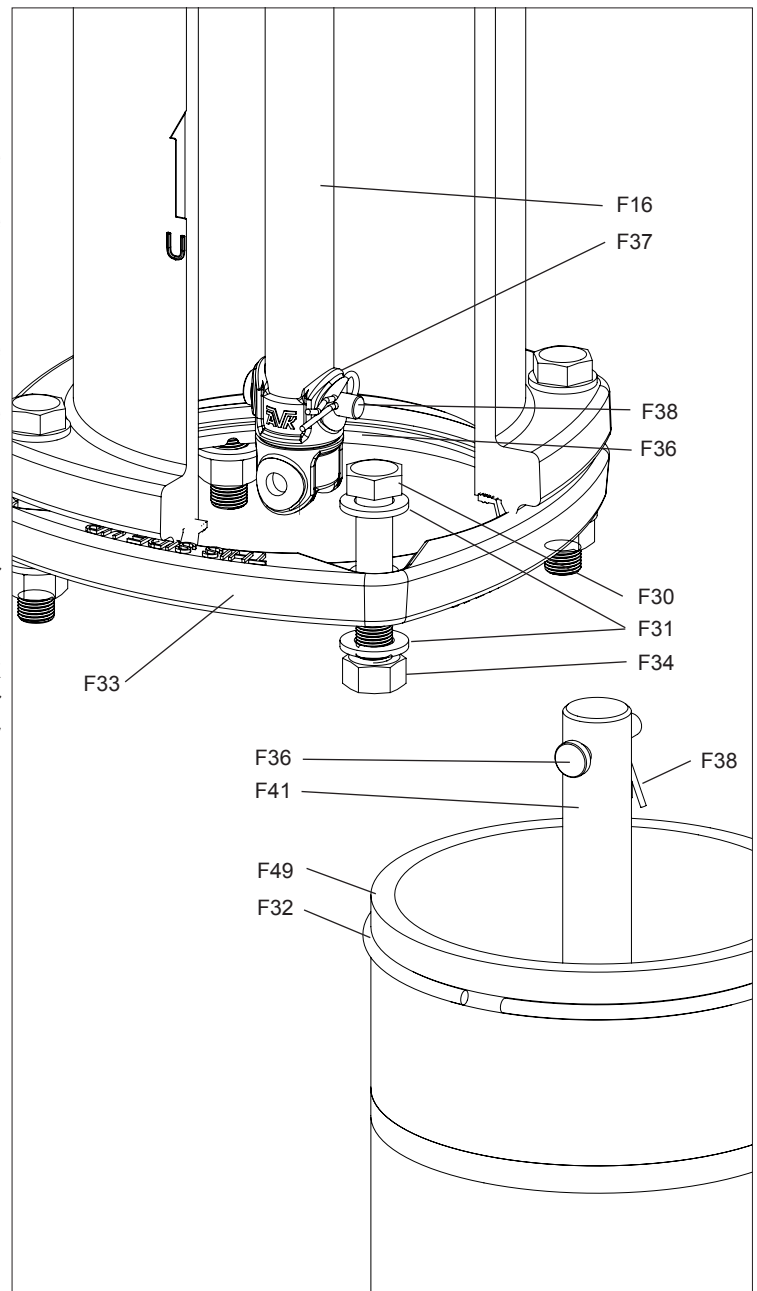

Fig. 8
1. Remove the hardware (F30,31,34) from the Breakable Flange (F33). Slide the Lock Ring (F32) off of the Lower Barrel (F49). (See Fig. 8)
WARNING: Be sure the Breakable Flange (F33) is right side up, indicated with the text "This Side Up", facing towards the nozzle section. (See Fig. 8&9). Slide a new Lock Ring (F32) into the groove on the Lower Barrel.